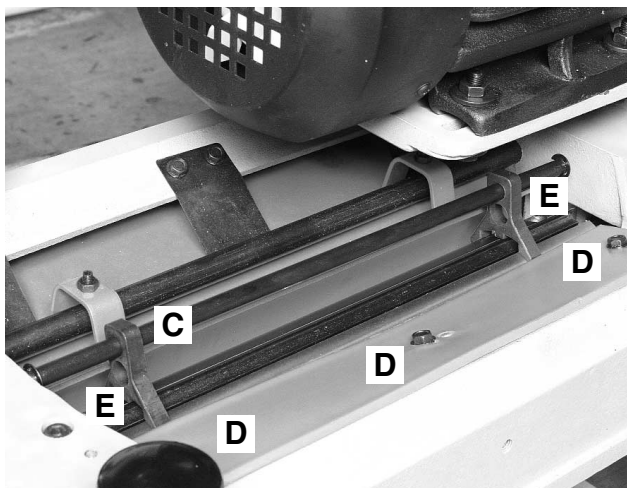

Fig. 7
7. To adjust the height of the knives, you will need the knife setting gauge Fig. 7 (C). Place it on top of the cutterhead.
8. To adjust the height of the blades, turn the allen key screws located at each end of the knife locking bars Fig. 7 (E) anticlockwise to lower and clockwise to raise them. The tip of the blades should just brush the bottom of the setting gauge, this should be even along the length of the blade. If there is no movement of the blade when the adjustment screws are moved, the screws holding the knife locking bars in place may be too tight to allow the blades to move.
2. Loosen off the three slotted screws Fig. 7 (D) that hold the nylon chip breaker in place.